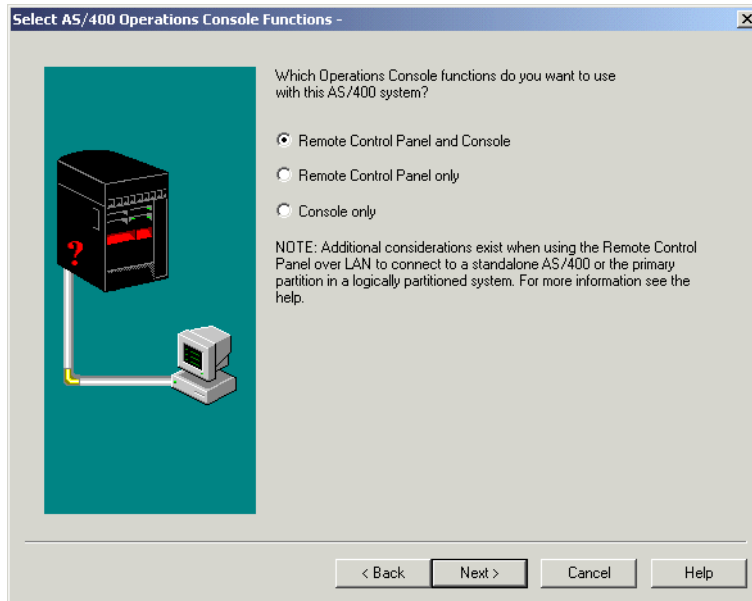

Figure 7-24 Select AS/400 Operations Console Functions screen
- The display in Figure 7-24 shows the options that are available for Operations Console. Here you can select the console, the remote control panel, or both. In this example, we click **Remote Control Panel and Console**. Then click **Next**.